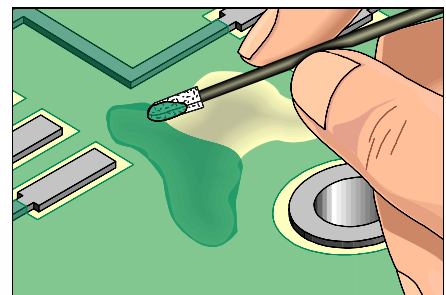

Figure 2: Apply epoxy as needed. Foam swabs may be used to add texture for soldermask repair.
4. Apply or use as needed. (See Figure 2)